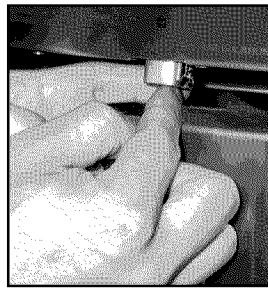
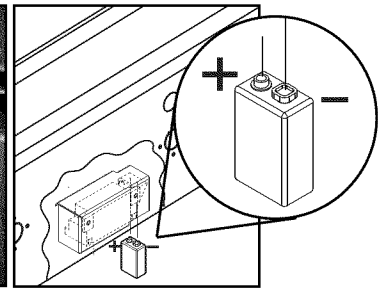

FIG. 52
FIG. 53
4. Re-install upward and push to snap - Fig. 52. (polarity is shown in Fig. 53).